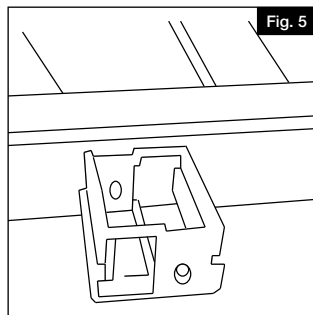

Fig. 5
- If installing a 10' kit, locate and mark the center point on the underside (unrouted side) of the bottom rail. Attach the support foot to the bottom rail as shown below (Fig. 5) using supplied set screw.